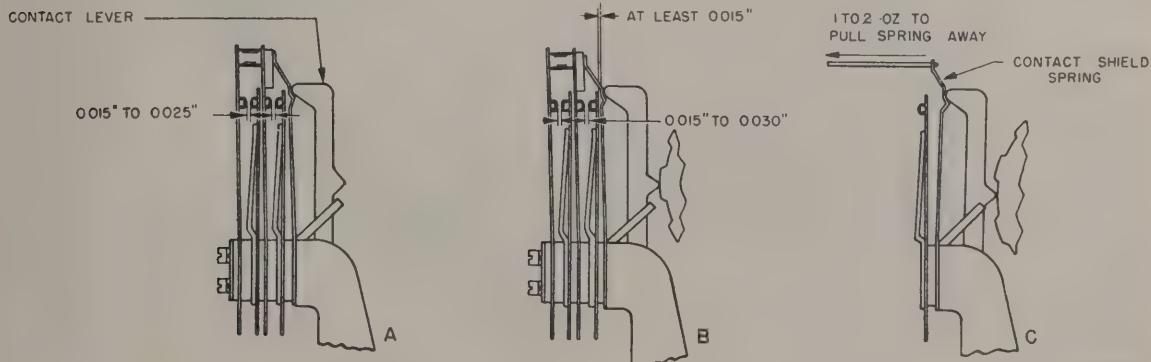

Figure 23. Distortion Test Set TS-383/GG, transmitting contact requirements.
a. CODE SELECTING SWITCH AT R. (1) *Requirement.* There should be a 0.015- to 0.025-inch gap between each pair of contact points of the numbers 1, 3, and 5 contact assemblies. (See A, fig. 23.)
b. CODE SELECTING SWITCH AT Y. (1) *Requirement.* There should be a 0.015- to 0.025-inch gap between each pair of contact points of the numbers 2 and 4 contact assemblies. (See A, fig. 23.)
(1) *Requirement.* There should be a 0.015- to 0.030-inch gap between each pair of contact points. (See B, fig. 23.)
(2) *Requirement.* Hold the number 1 contact lever against its cam and hook an 8-ounce scale on the top of the contact shield spring. (See C, fig. 23.) It should require 1 to 2 ounces to pull the spring away from the contact lever. Check each contact shield spring in the same way with each contact lever on a low part of its cam.
Note. There should be at least 0.015 inch of clearance between the contact shield spring and the inside short contact spring. (See B, fig. 23.) If the position of the contact shield springs is changed in any manner, recheck the contact gaps.